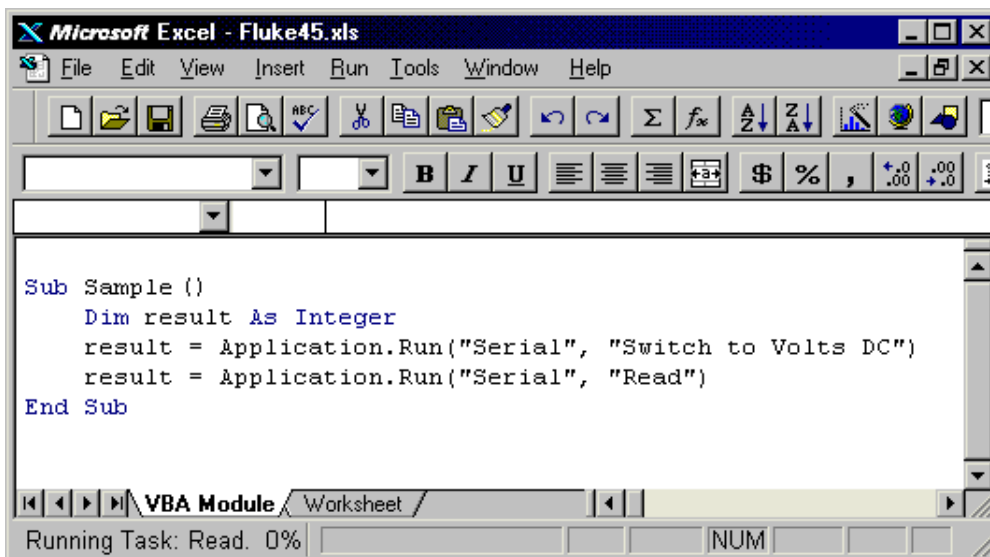

Figure 2-5. VBA code to read data from the Fluke 45
4. Type the following code in the module, as shown in Figure 2-5.
Your computer screen should appear as shown in Figure 2-5.
8. Click on the tab at the bottom of the screen corresponding to the worksheet you were on when you added the module, as shown in Figure 2-5.